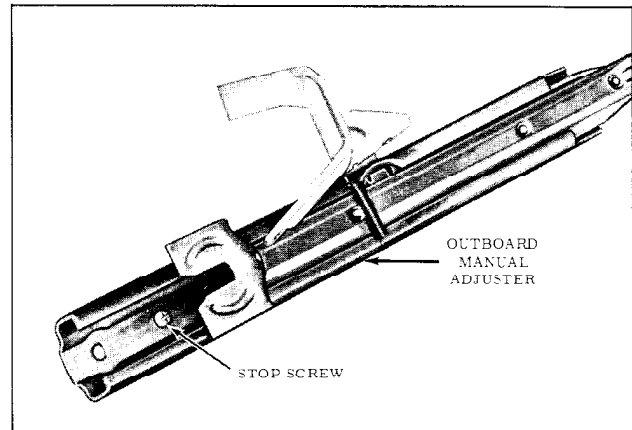

Fig. 15-50 Repositioning Front Seat
4. Operate outboard adjuster lower track rearward sufficiently to install stop screw at front of adjuster upper track. (Fig. 15-50)